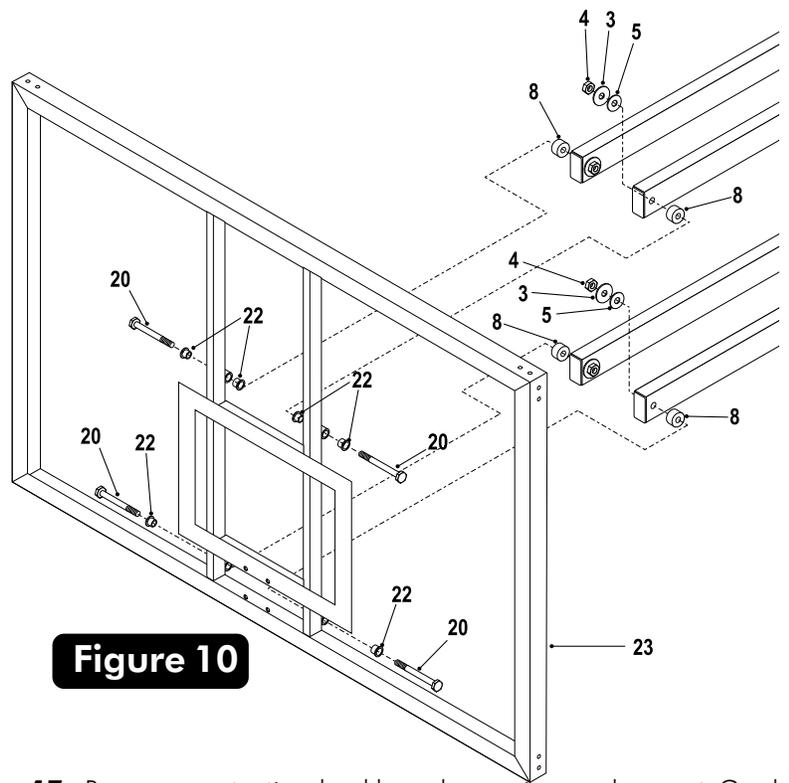

Figure 10
15. With at least three capable people, raise the backboard assembly up and have the fourth attach Lower Board Arms to lower mounting tubes on backboard using two bolts (#20), four Board Bushings (#22) (shipped already installed), two spacers (#8), two plastic washers (#5), two washers (#3) and two hex nuts (#4). See Figure 10.
16. Attach Upper Board Arms to upper mounting tubes on backboard using two bolts (#20), four Board Bushings (#22) (shipped already installed), two spacers (#8), two plastic washers (#5), two washers (#3) and two hex nuts (#4). See Figure 10.